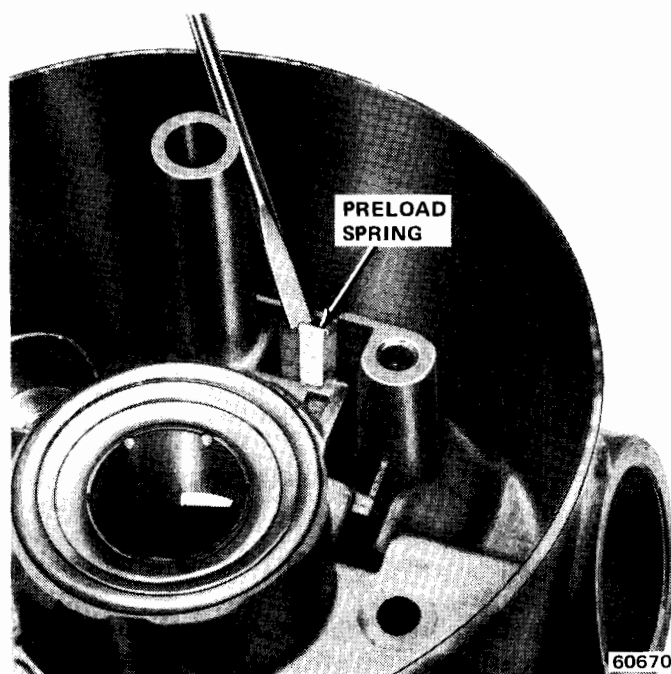

Fig. 11-16 Removing-Installing Preload Spring
(20) Remove rack preload spring (fig. 11-16).
- (2) Install rack preload spring (fig. 11-16). Bowed side of spring must bear against lock rack when rack is installed.